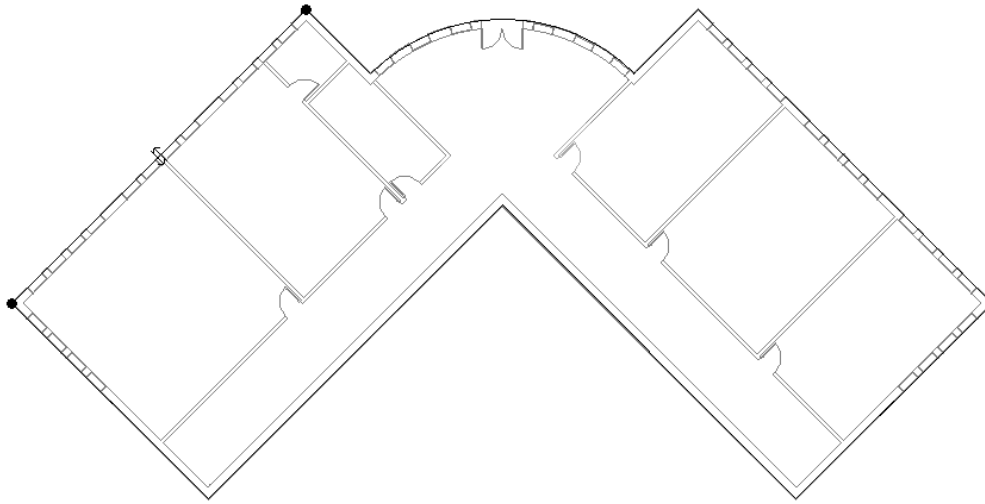

Figure 6-44 The sketched floor boundary
- c. Create the floor using the **Floor** tool, refer to Figure 6-44.
5. When the chain of walls is highlighted, click to sketch the floor boundary. Ensure that the floor boundary line is sketched on the outer face of the exterior wall, as shown in Figure 6-44. If required, use the flip control to move the floor profile to the outer face.